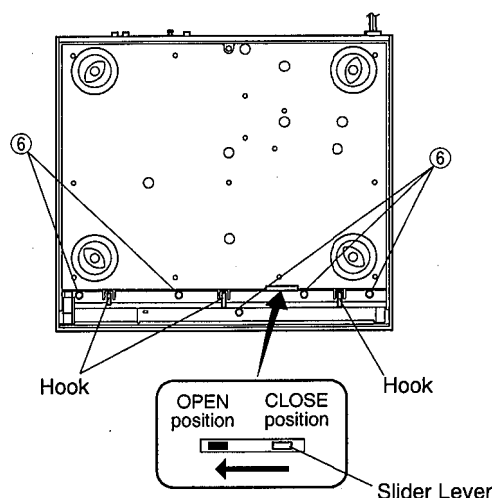

Fig. 2
- Using a flat tip screwdriver of the like through the hole in the main unit on the bottom cover side, move the slider lever to the "Tray OPEN" position as shown in Fig. 2. Then the tray will come out about 5cm forward.
- Remove 5 screws (⑥) in Fig. 2.
- Unhook 3 panel hooks on the bottom in Fig. 2 and pull out the Front Panel.